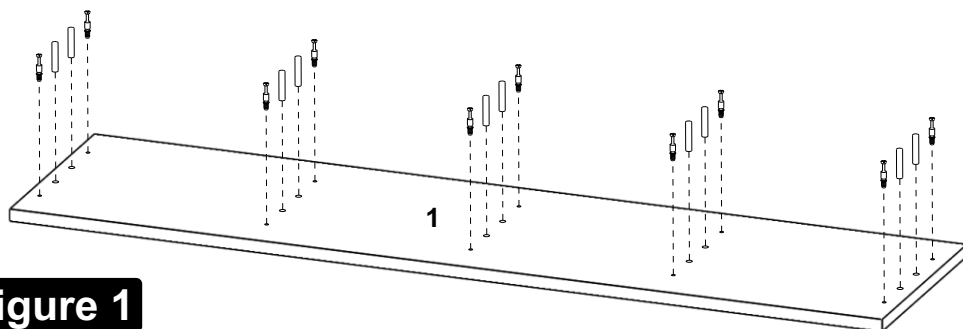

Figure 1
Step 1 : Insert **Dowels** and **Minifixes bolt** into **Board 1** as shown in **Figure 1**.